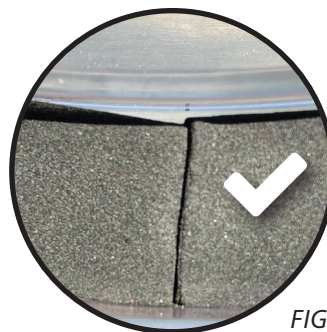
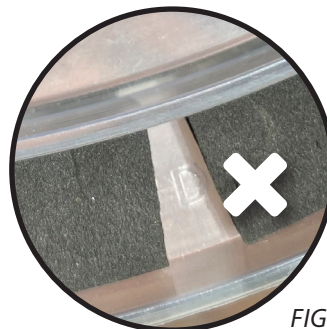

FIG. 3a
FIG. 3b
2. Make sure that the gasket is in good condition with no cracks or tears and is installed with the ends firmly butted up against each other as shown in [FIG. 3a]. Proper sealing prevents dust and air from escaping [FIG. 3b]. Replace the gasket if it is worn or torn.